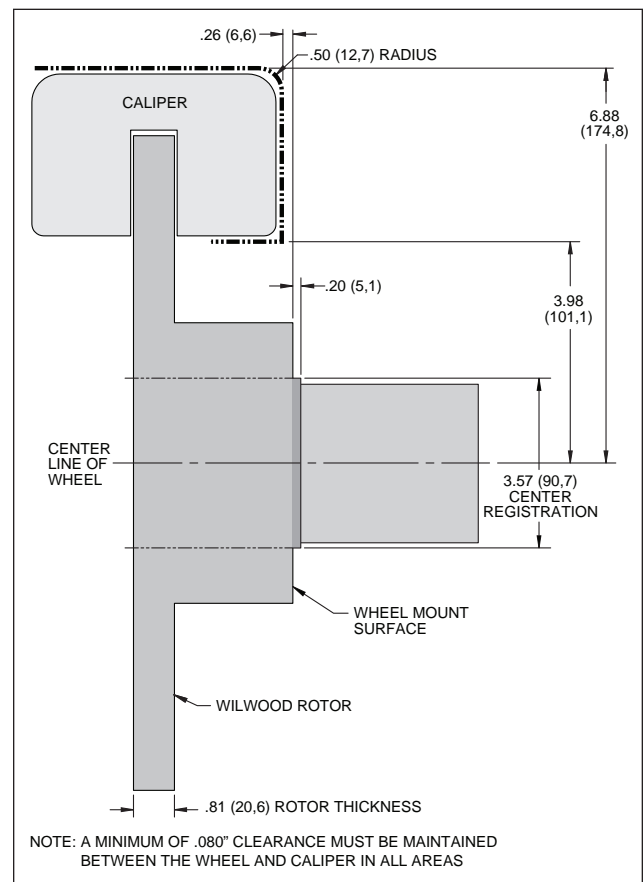

Figure 2. Wheel Clearance Diagram
- Review the Wheel Clearance Diagram (Figure 2, page 3) to verify that there is adequate clearance with the wheels you will be using with the installation.
- Verify your wheel clearance using Figure 2.
- **CAUTION:** Wheel fitment to OEM hub interference must be checked. There is a 3.57" diameter step on the hub face that was used to register the old brake drum (Figure 2). Be sure your wheel fits flush against the hub face. If the step interferes, you will need to use a wheel spacer (customer supplied) to clear the step.
- Temporarily install the wheel and torque the lug nuts to the manufacturer's specification. Ensure that the wheel rotates freely without any interference. **CAUTION:** Wheel fitment to OEM hub interference must be checked. There is a 3.57" diameter step on the hub face that was used to register the old brake drum (Figure 2). Be sure your wheel fits flush against the hub face. If the step interferes, you will need to use a wheel spacer (customer supplied) to clear the step.
- **NOTE:** OEM rubber brake hoses generally cannot be adapted to Wilwood calipers. The caliper inlet fitting is a 1/8-27 NPT. Install Wilwood's stainless steel braided flexline hose kit (14), P/N 220-13319 included with this kit, Photo 9. **Carefully route hoses to prevent contact with moving suspension, brake or wheel components.** **NOTE:** Wilwood hose kits are designed for use in many different vehicle applications and it is the installer's responsibility to properly route and ensure adequate clearance and retention for brake hose components.